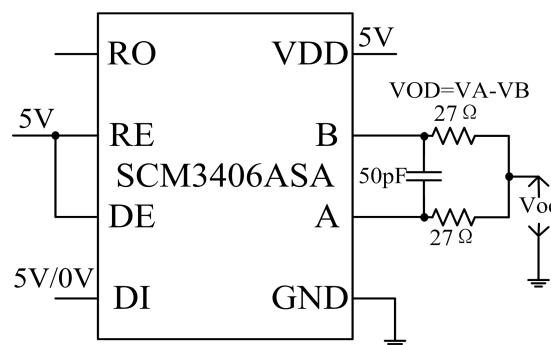

Figure 16 Driver Test Circuit,  $V_{OD}$  and  $V_{OC}$  Without Common-Mode Loading
| Differential Driver Output (1)                     | V IN =3V, R L =54Ω, Figure16                                     | 1.5   | 1.9  |                  | V    |
| Differential Driver Output (2)                     | V IN =5V, R L =54Ω, Figure16                                     | 2.1   | 2.8  |                  |      |